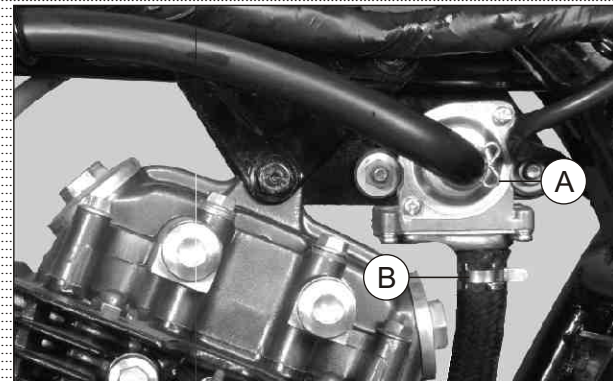

Fig. 4.47
- Remove hose clip (A) from hose air inlet and pull out the hose from secondary air injection valve. (Fig. 4.47)
- Remove hose clip (B) from hose air outlet and pull out the hose from secondary air injection valve. (Fig. 4.47)